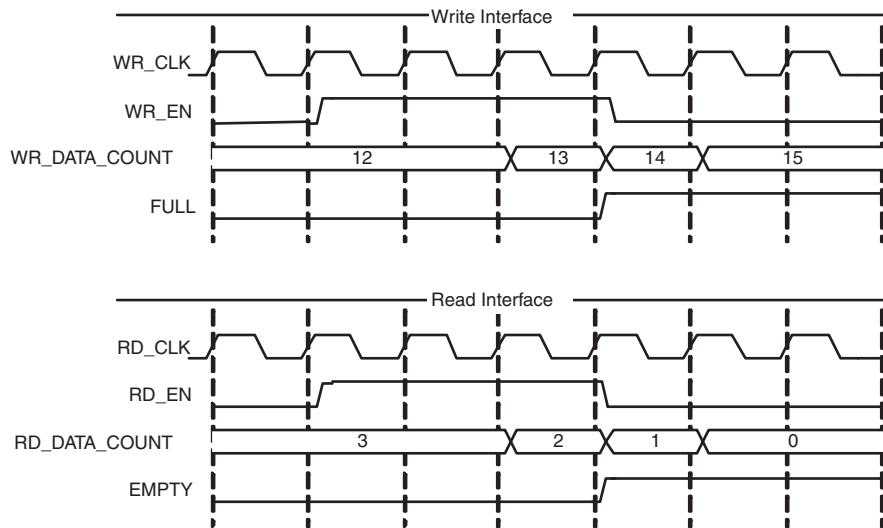

Figure 3-12: Write and Read Data Counts for FIFO with Independent Clocks
**Figure 3-12** shows write and read data counts. When wr\_en is asserted and full is deasserted, wr\_data\_count increments. Similarly, when rd\_en is asserted and empty is deasserted, rd\_data\_count decrements.
**Note:** In the first part of **Figure 3-12**, a successful write operation occurs on the third rising clock edge, and is not reflected on wr\_data\_count until the next full clock cycle is complete. Similarly, rd\_data\_count transitions one full clock cycle after a successful read operation.